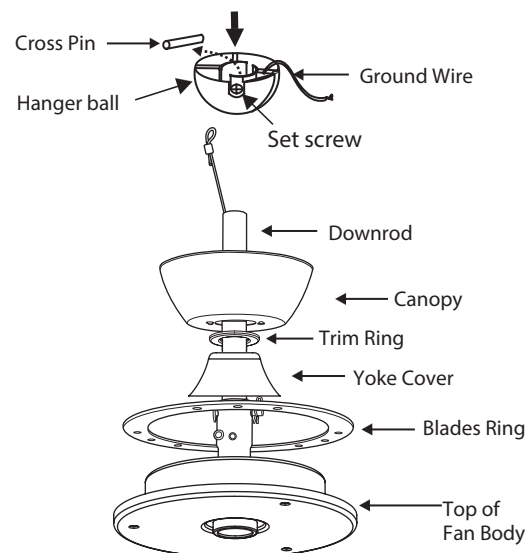

Fig. 3
- 6** Slip the blades ring, yoke cover, trim ring and canopy onto the downrod. (Fig. 3)
- 8** Feed wires through holes in rubber ball moisture cap and slide cap down over top of ball. (Fig. 3)
A DOWNWARD airflow creates a cooling effect as shown in Figure 3. This allows you to set your air conditioner on a warmer setting without affecting your comfort.